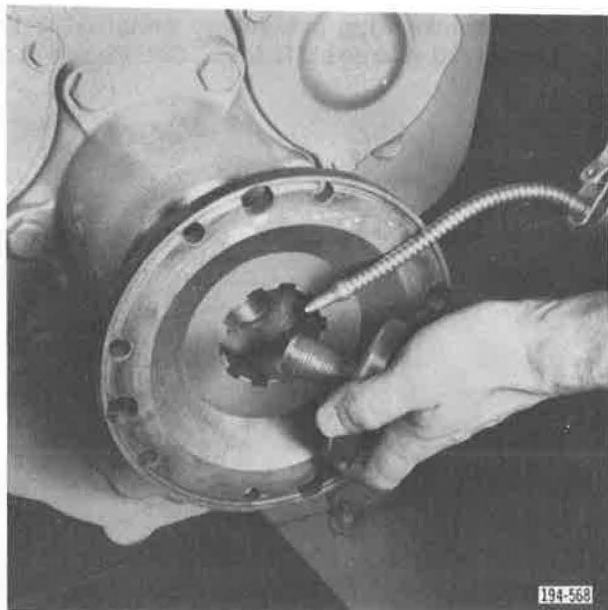

Figure 5-976. Lubricating Screw
6. Lubricate threads of drive flange (or yoke) clamp plate screw, and install clamp plate and screw. See **Figure 5-976**.